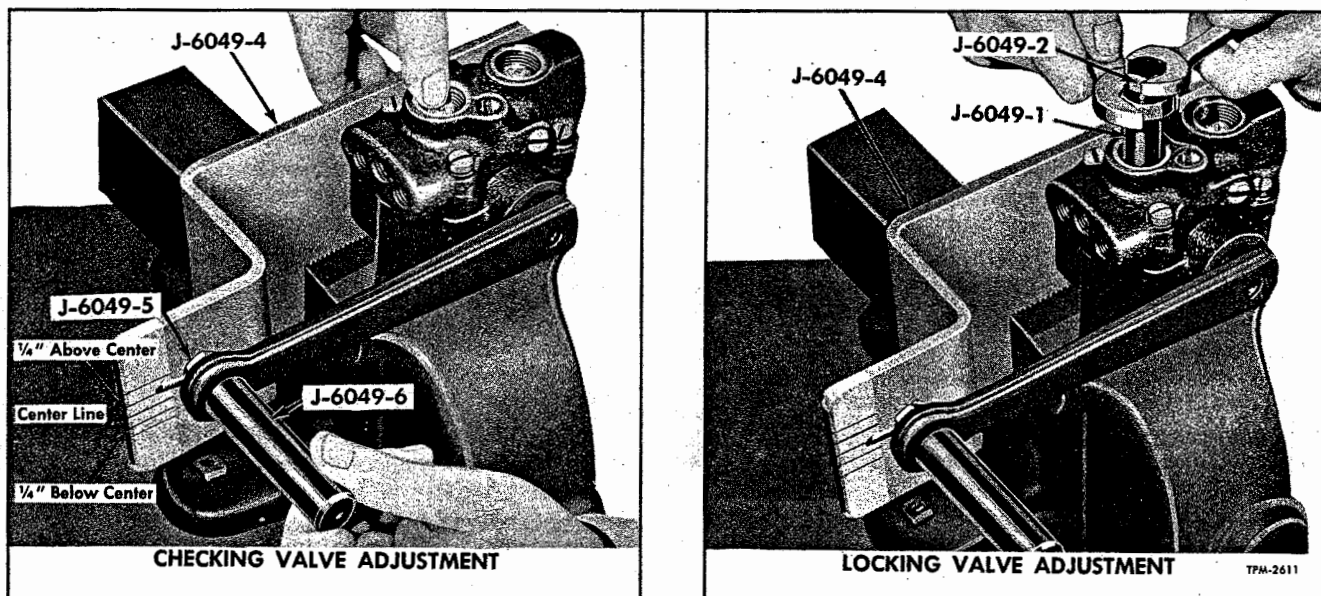

Figure 24—Calibrating Height Control Valve
5. Scribe a line 1/4" above and parallel to the center line and another 1/4" below (fig. 24). At these points, the valves should start to open.
6. Using wrench J-6049-2, screw in left-hand valve assembly (1) about one turn.
7. Insert finger nail in screw slot of valve to make contact with top of brass valve plunger (fig. 24).
8. Raise actuating arm until contact of operating beam is felt on plunger and note position of pointer (fig. 24). If pointer is above the "1/4-inch above center" line, continue screwing valve in until contact is made at the proper point. If pointer is below the "1/4-inch above center" line when contact is made, back off valve until contact is made at proper point.
9. When correct valve position has been determined, insert wrench J-6049-2 inside wrench J-6049-7 and tighten valve lock nut (2) while holding valve (1) in position as shown in figure 24.
10. Install valve cover nut (4) with gasket (3) on top of left-hand valve and tighten nut to 600 inch-pounds torque.
14. Adjust needle valve (30) until the opening of the intake or exhaust valve is delayed 3 to 7 seconds following a rapid 2-inch arm movement in each direction starting from a point 1 inch above or below the center line.